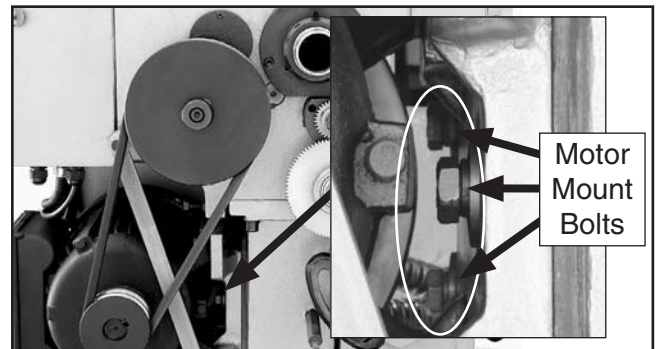

Figure 96. Location of motor mount bolts.
3. Remove the tension off the old V-belts by loosening the motor mount bolts (**Figure 96**) and sliding the motor up.
3. Loosening the motor mount bolts (**Figure 96**) and remove the V-belts.